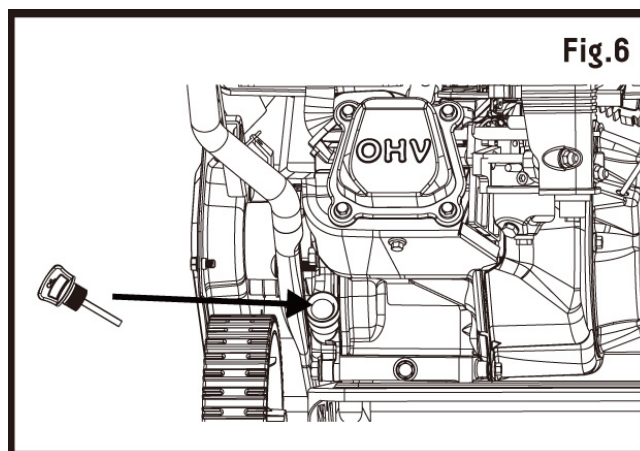

Fig.6
- 1) Remove the oil filler dipstick and wipe oil from it with a clean cloth (see Fig. 6).